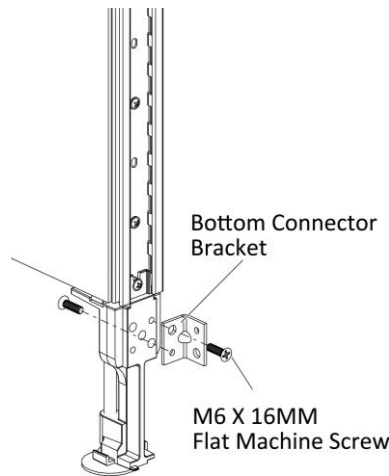

Figure 5
8. Position the bottom corner bracket to the third corner and securely fasten it to the panel leg with two M6 X 16MM Flat Machine Screws, (Figure 5).